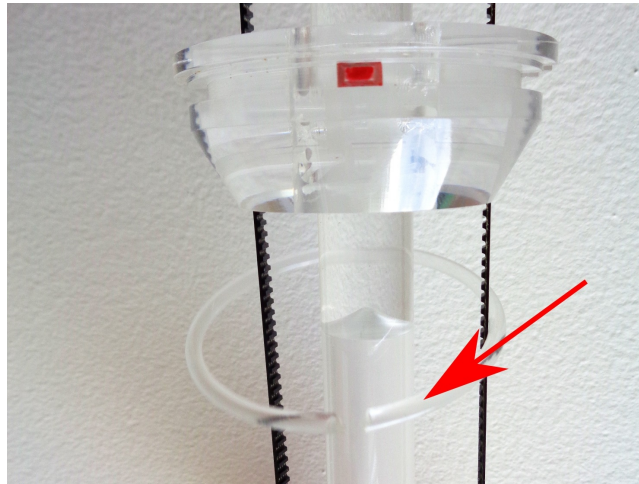

Figure 12: Ring with rubber washer
6. Gently release the ring, as you can see in Fig. 12. Pay attention to the position of small rubber washer which works like a spacer. Remove the belt from 3D-Rotator.